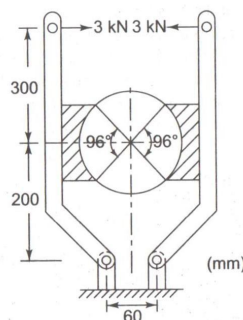

Figure 1, Que. 3 (b)
- (b)** Determine the maximum torque for a shoe brake shown in figure 1. The diameter of the brake drum is 400 mm and the angle of contact is 96° . The applied force is 3 kN on each arm and the coefficient of friction between the drum and the lining is 0.35. **07**